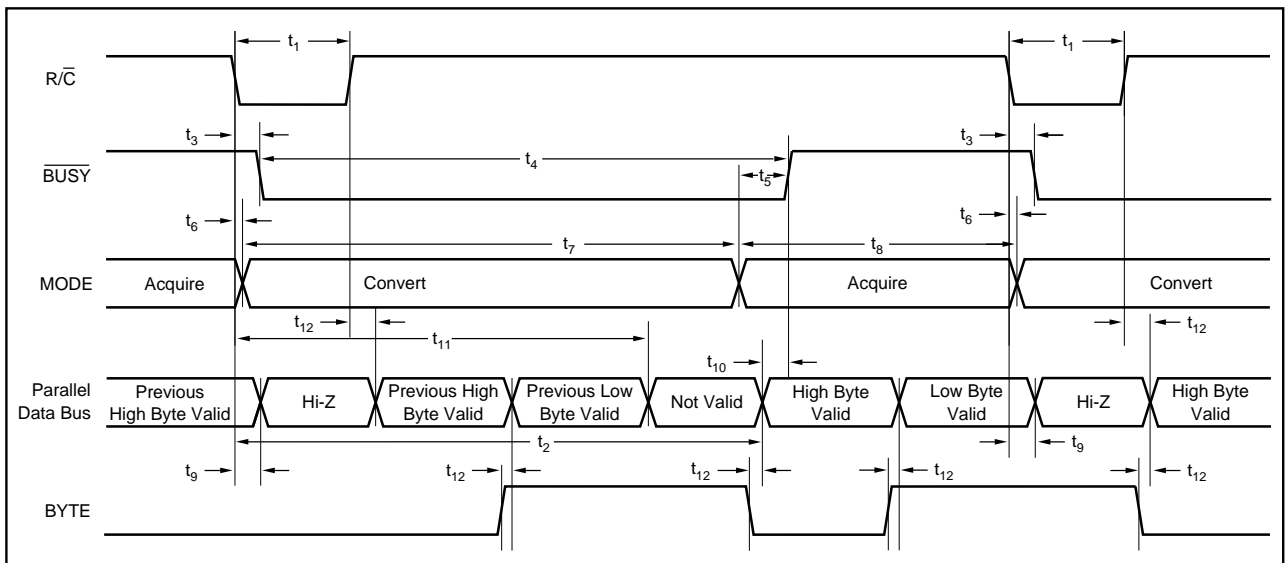

FIGURE 2. Conversion Timing with Parallel Output ($\overline{\text{CS}}$ and DATACLK tied LOW, $\overline{\text{EXT/INT}}$ tied HIGH).
The ADS7806 will begin tracking the input signal at the end of the conversion. Allowing 25µs between convert commands assures accurate acquisition of a new signal. Refer to Tables III and IV for a summary of \overline{CS} , R/\overline{C} , and \overline{BUSY} states and Figures 2 through 6 for timing diagrams.
NOTE: (1) See Figures 2 and 3 for constraints on data valid from conversion "n-1".
After conversion 'n' is completed and the output registers have been updated, $\overline{\text{BUSY}}$ (pin 24) will go HIGH. Valid data from conversion 'n' will be available on D7-D0 (pins 9-13 and 15-17). $\overline{\text{BUSY}}$ going high can be used to latch the data. Refer to Table VI and Figures 2 and 3 for timing constraints.
After conversion 'n' has been initiated, valid data from conversion 'n-1' can be read and will be valid up to 12 μs after the start of conversion 'n'. Do not attempt to read data beyond 12 μs after the start of conversion 'n' until $\overline{\text{BUSY}}$ (pin 24) goes HIGH; this may result in reading invalid data. Refer to Table VI and Figures 2 and 3 for timing constraints.